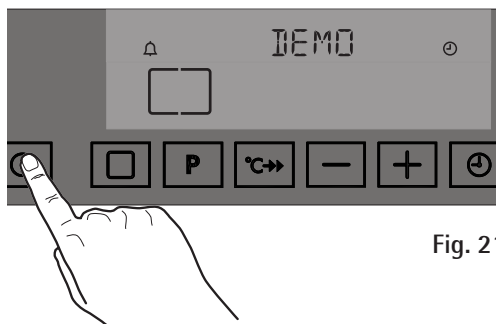

Fig. 21
2. When you touch control  to switch on the oven, the message "DEMO" appears on the upper section of the display (Fig. 21). You can then select any cooking function, but the oven will not heat up. The thermometer symbol will come on  , but it will not flash nor rise.